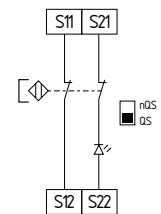

Fig. 15
**Dual-channel control of magnetic safety switches according to EN 60947-5-3 (see Fig. 15)**